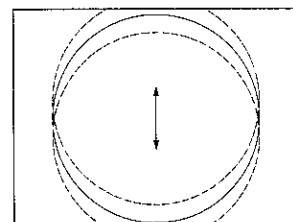

Fig. 2
2. Take reading at pin ③ of IC 201. (See waveform in fig. 2).
3. Adjust T 201 to align 39.5 MHz marker with retrace line (see fig. 2).
- Adjust the horizontal location to obtain picture centering (fig. 2).